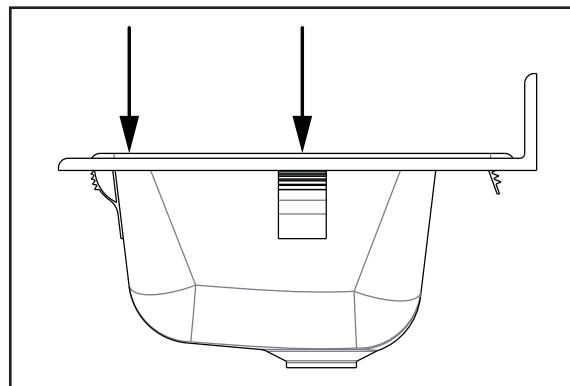

FIGURE 2. Push down on the front of the sink.
- + Push down on the front and sides of the sink while holding the faucet side against the counter top. Push down firmly to make sure the sink sits flush on the countertop. (Fig 2)